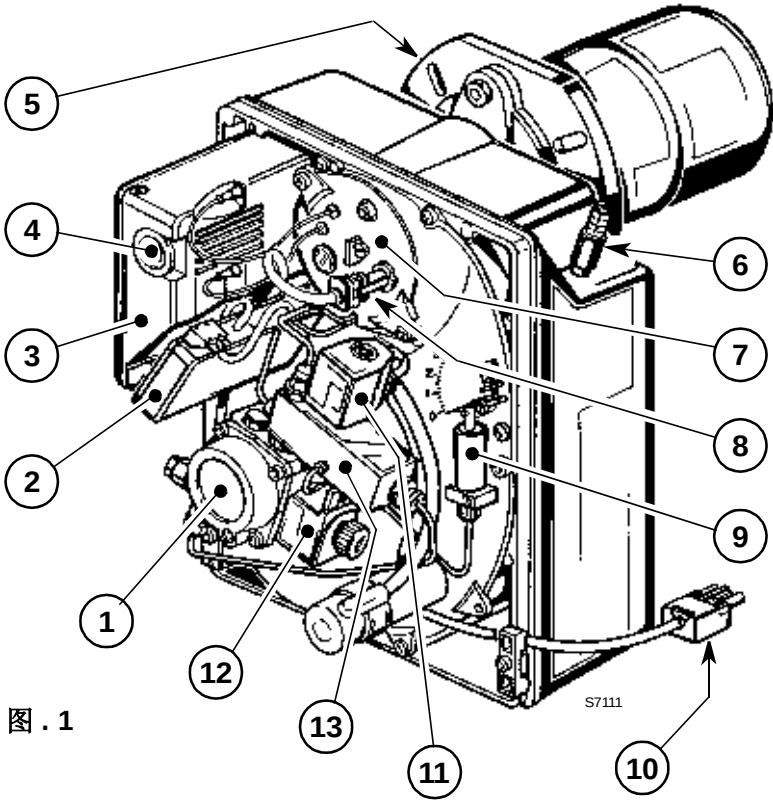

图 . 1
B Lock out is indicated by a lamp on the control box (4, fig. 1, page 1).
- Clean the photoresistance, (8, fig. 1, page 1).
A fault usually makes the lock-out lamp light which is situated inside the reset button of the control box (4, fig. 1, page 1).